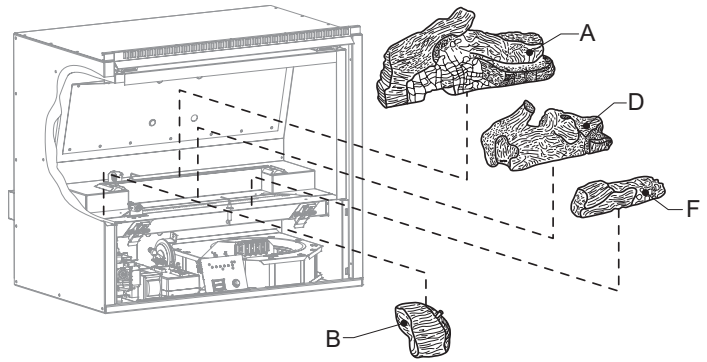

Figure 20A
1. Place Rear Log (A) onto rear log support. The notch in the Rear Log fits over the rear Hot Surface Ignitor.
2. Place Left Log (B) on left rear log support shelf. The charred portion of the log must face inward.
3. Place Middle Log (D) on front log support between the front and back burners.
4. Place Front Right Log (F) on right side of Firebox bottom. Notch in bottom of Front Right Log fits over the front Flame sensor. See Figure 20A.